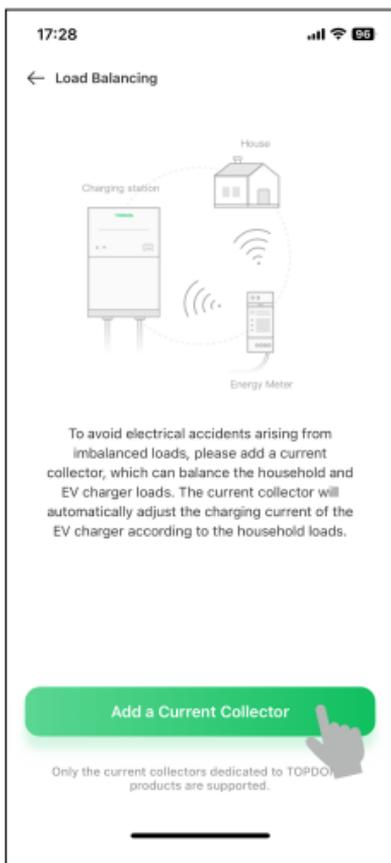
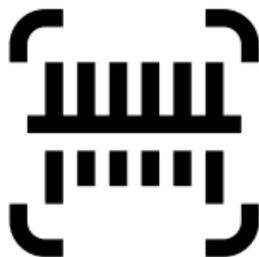

Fig. 3-3
Fig. 3-4
2. Tap "Add A Current Collector" (See Fig. 3-3). Then scan the barcode on the PulseQ DLB (See Fig. 3-4).